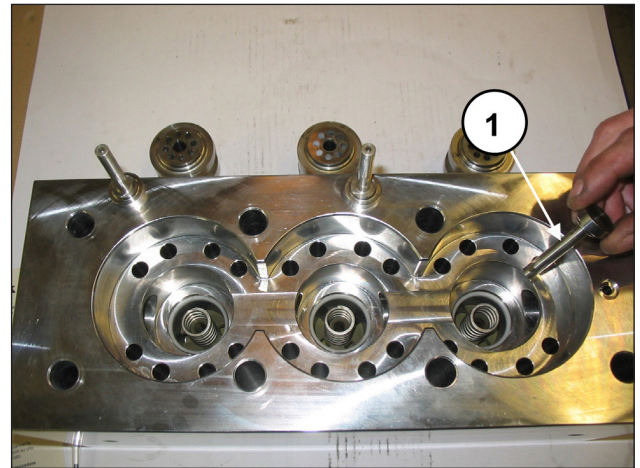
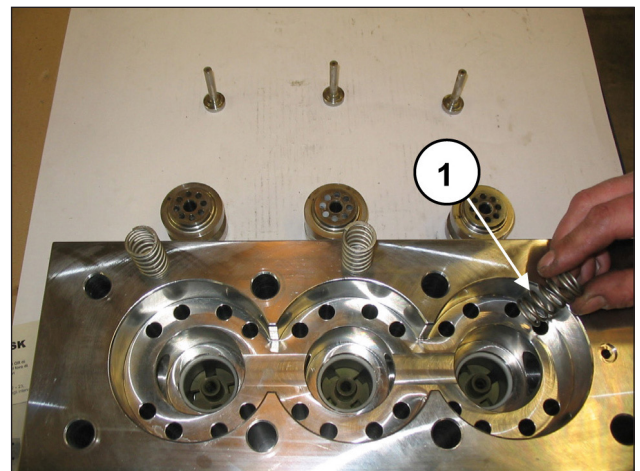
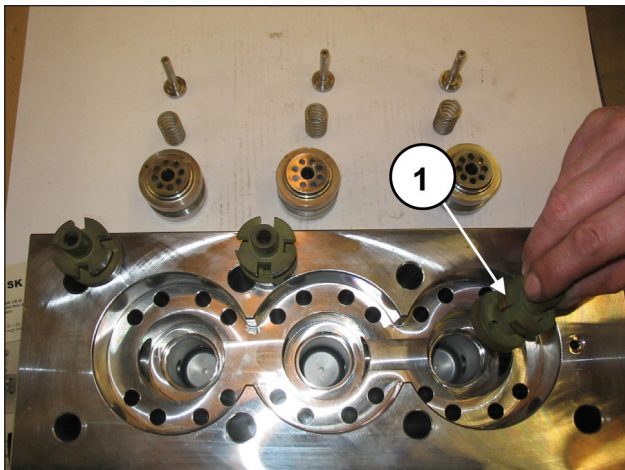

Fig. 104
Fig. 105
Fig. 106
Extract the outlet plates (pos. ①, Fig. 104), and their respective guides (pos. ①, Fig. 106), with their springs (pos. ①, Fig. 105). Check their conditions, replace if necessary and at the intervals necessary as indicated in chapter 11 in the *Use and maintenance manual*.